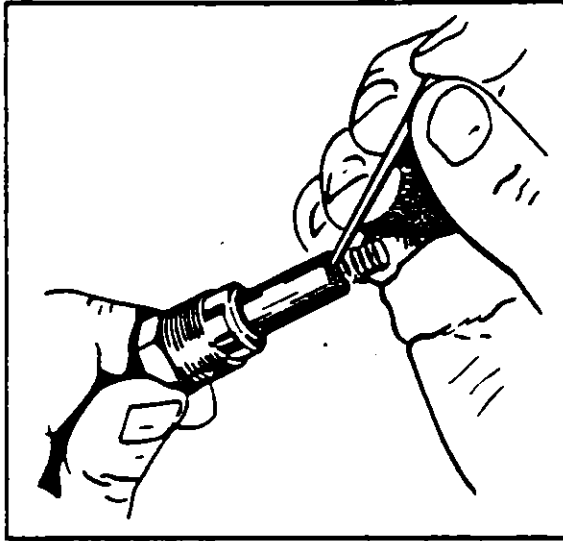

Figure 8-14. Removing Spring From Lead Assembly
1. Using a Scintilla 11-7073 Needle or a mechanical pencil with the lead retracted, hook the end of the contact spring as shown in Figure 8-14.